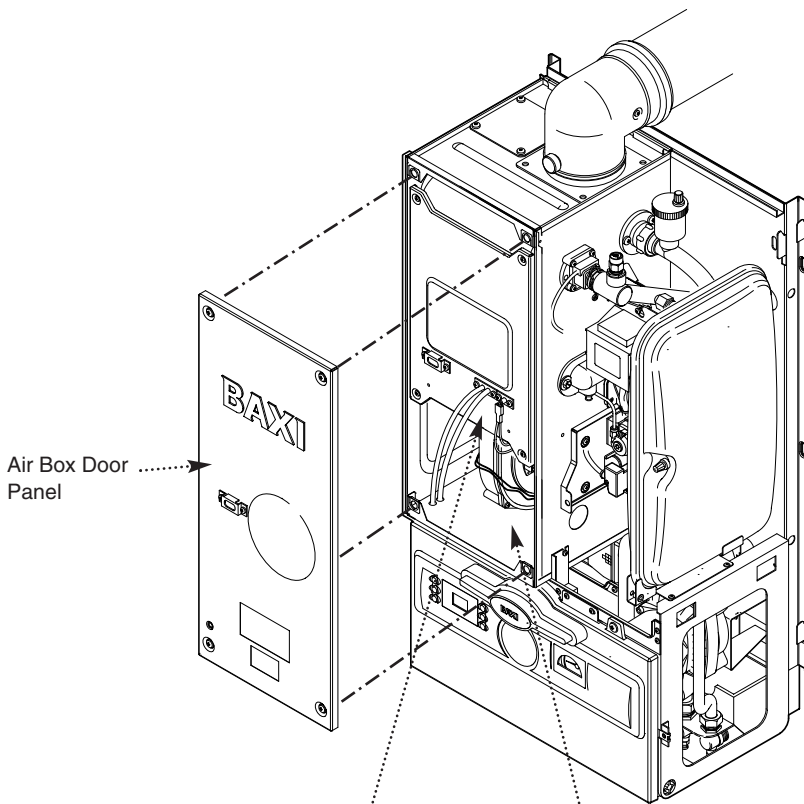

Fig. 75
1. Remove the airbox door panel by loosening the four 1/4 turn screws (Fig. 75).